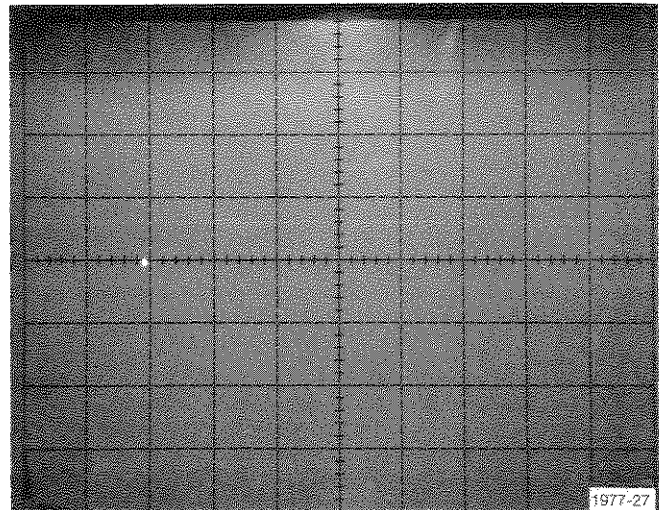

Fig. C-9. Display of output common-mode voltage.
b. Note that when the DISPLAY—ZERO pushbutton is pressed and released, the dot on the crt graticule moves to a spot about 3 divisions to the left of graticule center, representing about 6 volts. The minimum output common-mode voltage specified for the 727 is -7 volts, the maximum is -4 volts, and -5 volts is listed as being typical (see Fig. C-9).